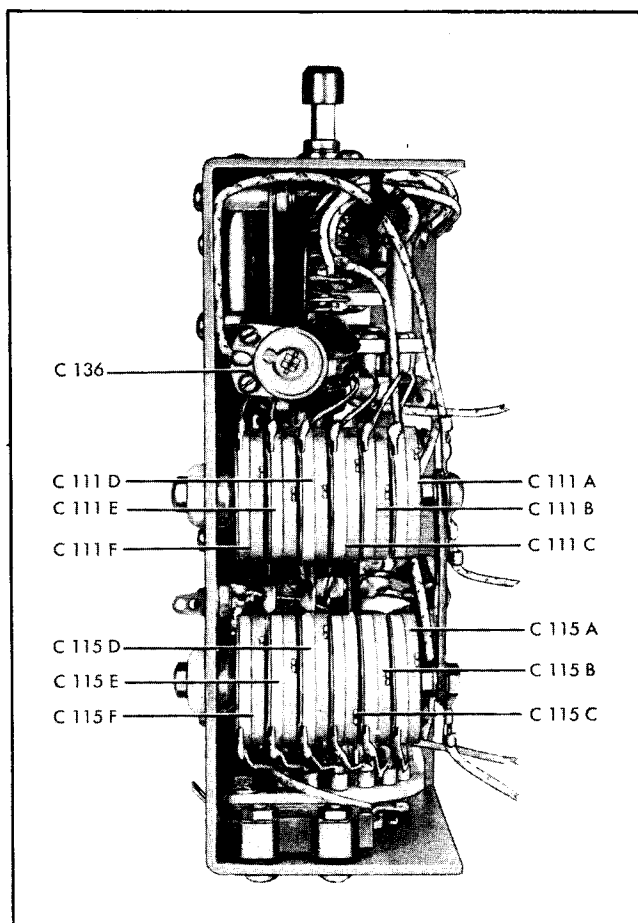

Figure 5-9. Frequency Multiplier
(1) With the transmitter tipped up on the rear edge and the bottom cover removed, the frequency multiplier plate tank capacitors are exposed. The multiplier plate tank capacitors are located beneath the multiplier chassis (stacks of ceramic capacitor sections.) Capacitor section A of each capacitor (C111 and C115) is located nearest the right-hand side of the transmitter, as the transmitter is viewed from the bottom, with sections B, C, D, E, and F, in order in the stack. See figure 5-9.
(2) Operate Control "A" to position 6.
(3) Rotate meter selector switch S105 to the P.A. GRID position.